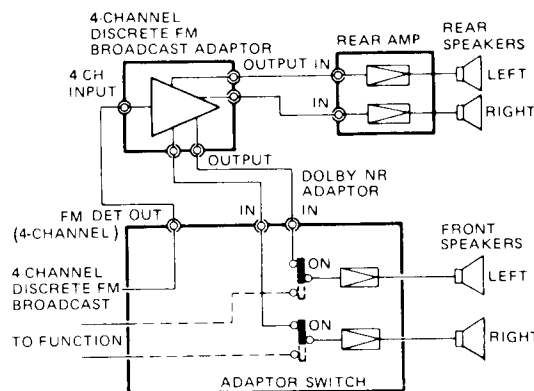

Fig. 29
1. The adaptor is connected to the FM DET. OUT jack of the receiver as shown in Fig. 29.